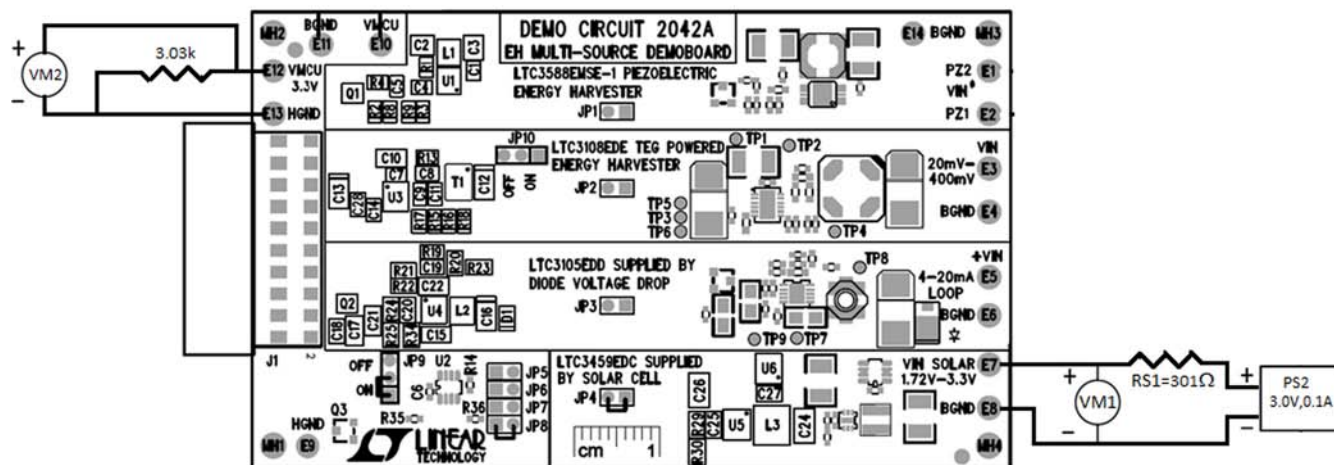

Figure 3. Solar Circuitry Test Setup (Test Steps 6 to 9 ) Proper Measurement Equipment Setup for DC2042A Solar Circuit Testing
6. Install JP4 and reconfigure the test equipment as shown in Figure 3 (Solar Circuit testing).